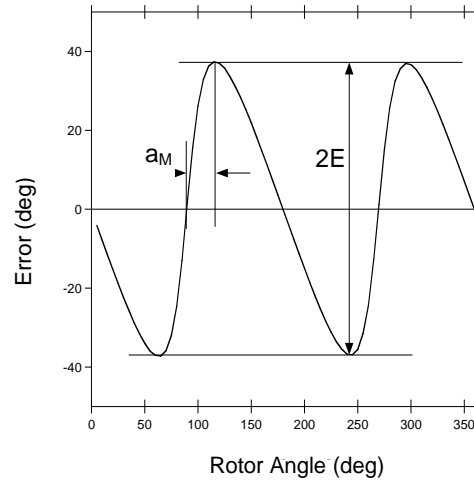

Figure 21: Error Curve in Side-Shaft Configuration with BCT = 0
The k ratio depends on the magnet geometry and the distance to the sensor. Having a k ratio other than 1 results in the sensor output response not being linear with respect to the mechanical angle. Note that the error curve has the shape of a double sinewave (see Figure 21 on page 19). E is the amplitude of this error.
The k ratio can be deduced from the error curve obtained with the default BCT setting (BCT = 0). Rotate the magnet more than one revolution and record the device's output. Next, plot the error curve (the output minus the real mechanical position vs. the real mechanical position) and extract two parameters: the maximum error (E) and the position of this maximum with respect to a zero crossing a_M (see Figure 21). k can be calculated with Equation (5):